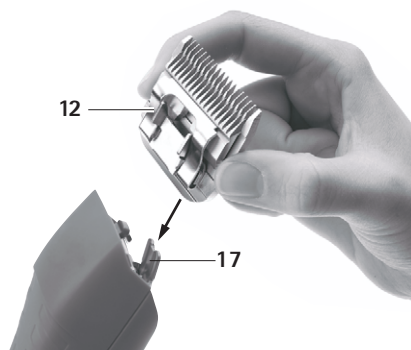

Fig. 2
- Install shearing head **12** on opened knife hinge **17**, see Fig. 2.
- Press shearing head **12** slightly in the direction of the DURATI shearing machine, see Fig. 2. The shearing head **12** engages audibly.